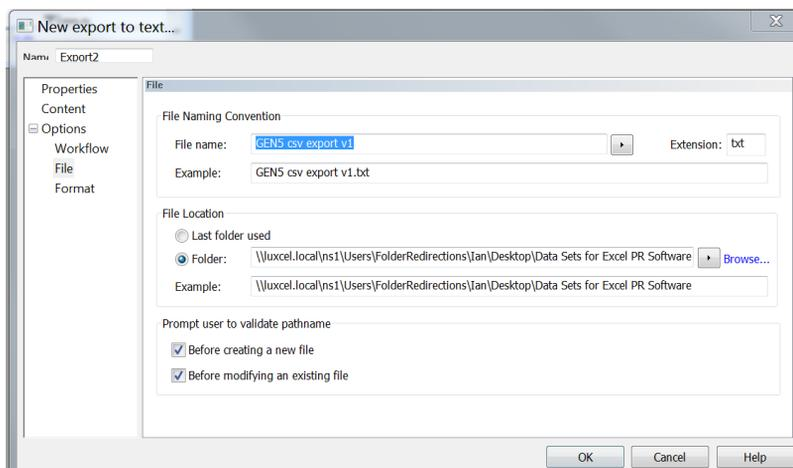

Figure 20. Exporting a Data File in Gen 5 Software, Settings for File Tab.
- 6 Select **File**. See **Figure 20**.